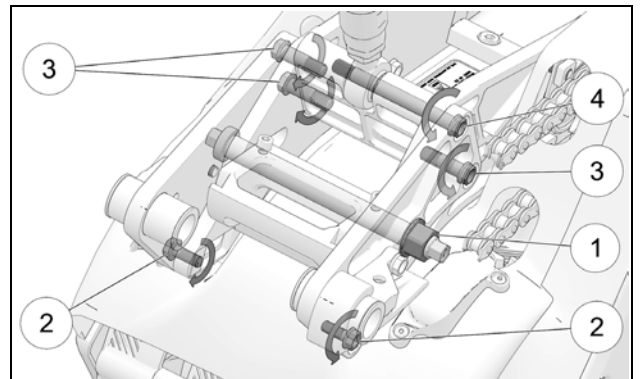

Figure 36
- Loosen eccentric bolt nut (1) a little using the special socket provided in your YETI SnowMX parts kit. Figure 36.
- Loosen slightly, the two M8 bolts (2), and the four M10 bolts (3-4) on each side of the Bike Mount so that the Bike Mount assembly can slide. Figure 36.